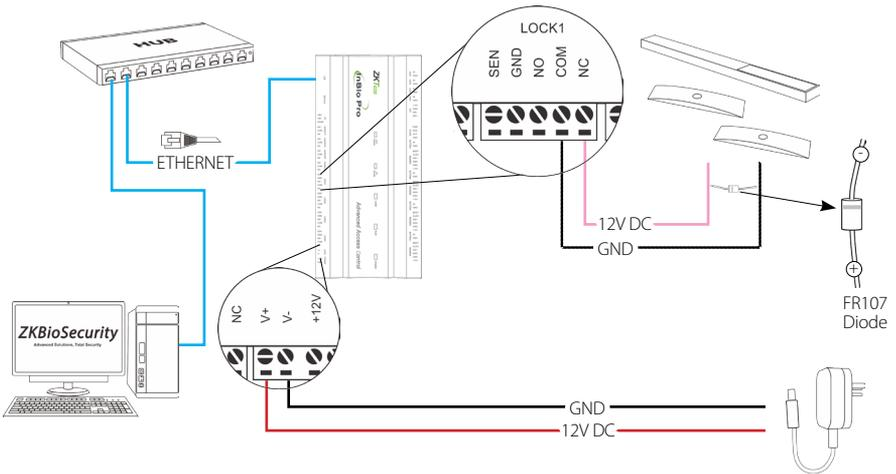

Figure 23
4. Connect the lock as show in the diagram, (see figure 23 and 24).